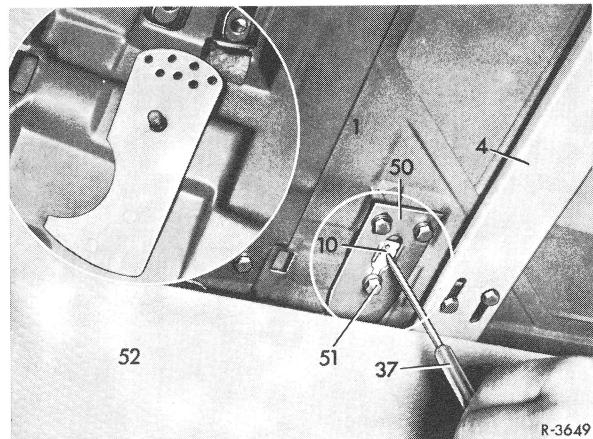

Fig. 2
- 3 Remove sliding roof headlining (refer to 77.0–100, item 1).
- 5 Loosen fastening nut (51) on angle bracket (50) (Fig. 2).